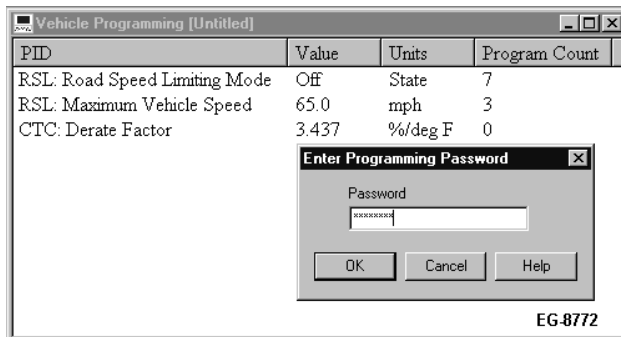

Figure 239
- Placing the mouse pointer within the **Vehicle Programming** window and right clicking will bring up the advanced features. Click on the **Enter Password** option. This allows a password to be entered and retained for use. The password must be between 4 and 8 alphanumeric characters (See Figure 239, page 409).